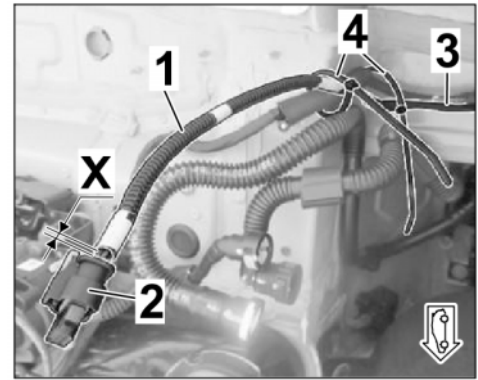

Figure 39
3.4.5 Install corrugated hose 4.5 x 7.6 x X to each branch from a distance of approx. 30 mm/ 1.18 in from the connector (socket housing 4-pin) to the underbody (⇒ *Figure 39*).